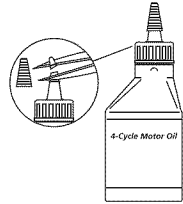

Fig. 4
1. Unscrew the top of the bottle of oil and remove the paper seal covering the opening. Replace the top and cut the tip off the funnel spout (Fig. 4).